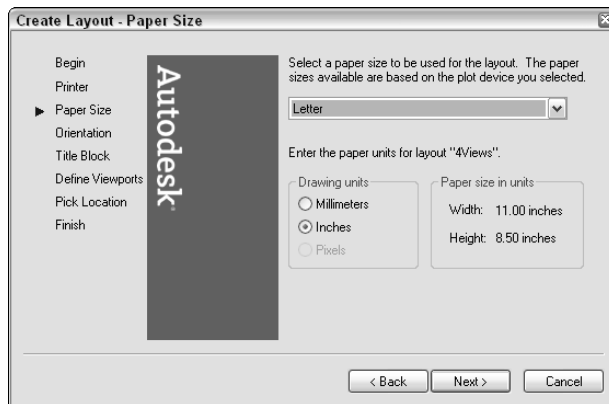

**Figure 17-4:** The Paper Size screen of the Layout Wizard.
4. On the third screen, shown in Figure 17-4, specify a paper size and drawing units, and then click Next.